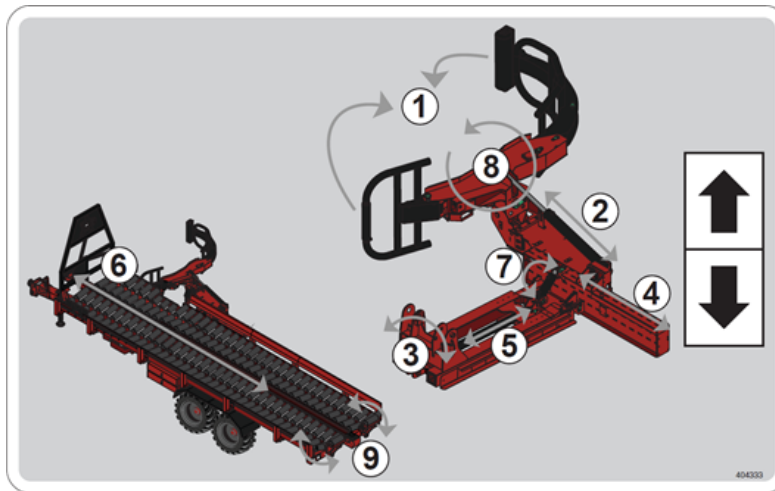

Figure 36 — Manual Functions
2. Touch the part of the trailer you want to activate. A green checkmark will appear in the circle that corresponds to the function (see Figure 36 and Table 10 for a description of the functions). In the previous example, the function that opens and closes the grabber was selected.